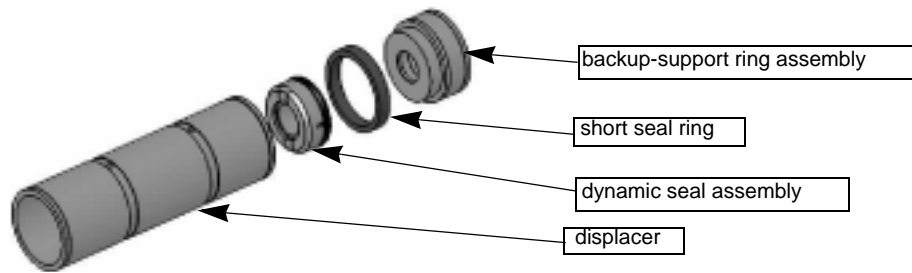
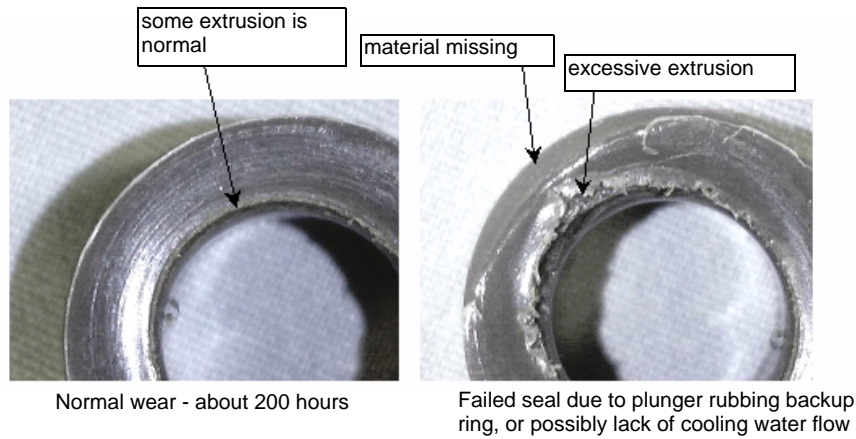
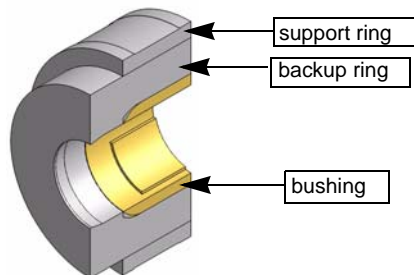

Figure 5-10: Sealing Assembly Components
Figure 5-13: Dynamic Seal Inspection
Figure 5-15: Backup-support Ring Assembly Components
6. The Backup-support Ring Assembly (Figure 5-15) is machined together as one assembly. The outer Support Ring is pressed onto the inner Backup Ring. These parts should not be separated. The Short Seal Ring (Figure 5-10) should be easily removed by hand. Remove the Short Seal Ring from all three Backup Ring Assemblies.
7. Before removing the Dynamic Seal Assembly (Figure 5-10) from the displacer, inspect the Dynamic Seal for extrusion (Figure 5-13). Extrusion of seal material around the edges of the bore in the dynamic seal is to be expected. Uneven, excessive extrusion and/or missing material from one side across the face of the Dynamic Seal indicates a failed seal with possible plunger damage caused by the plunger rubbing on the bore of the backup ring. If uneven or excessive material is extruded or missing, then a close inspection of the Backup-support Ring Assembly should be made for signs of rubbing.